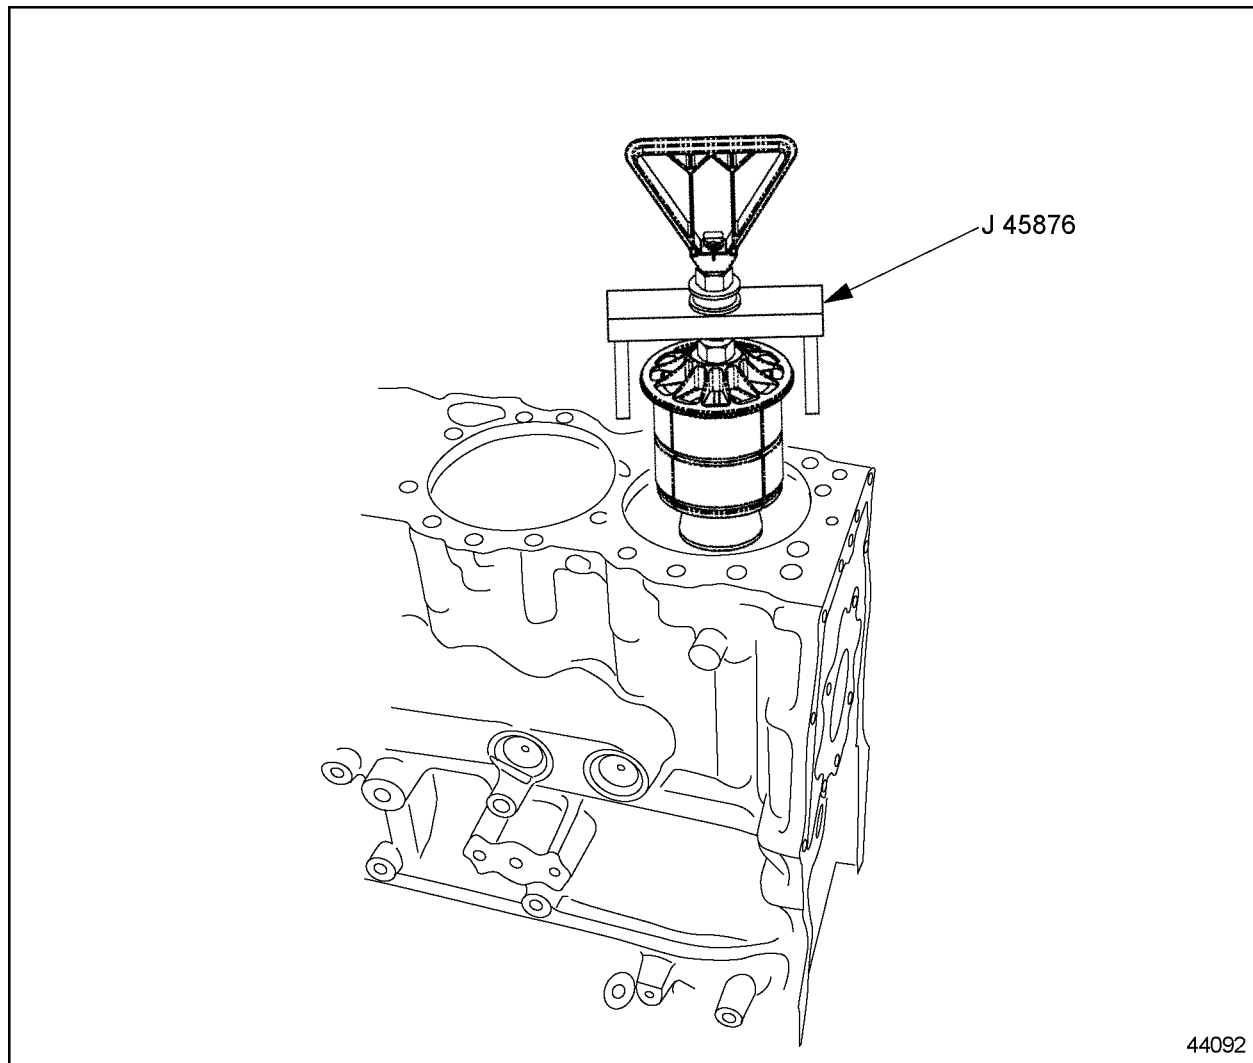

Figure 1-315 Cylinder Liner Removal Tool J 45876
2. Remove the cylinder liner with cylinder liner remover, J 45876 . See Figure 1-315.